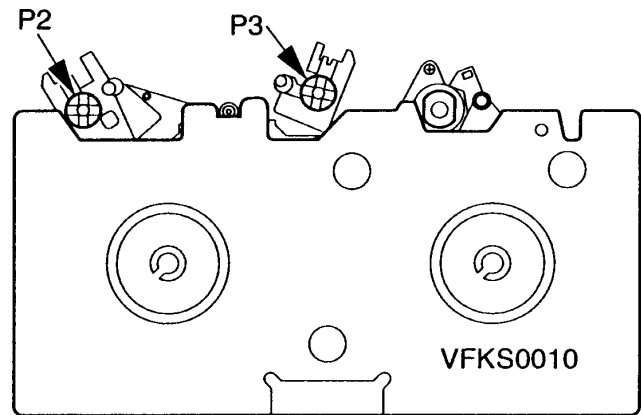

Fig. 5 - P2/P3 Post Height Adjustment
P2/P3 Post Height Adjustment (Figs. 5, 6, 7)
2. Position the post adjustment plate over the reels (Fig. 5).